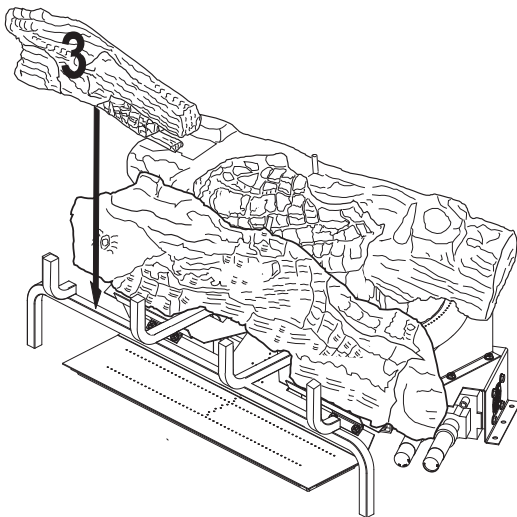

Figure 23 - Installing Log #3
3. Place the front left log (#3) onto the base assembly between the middle log (#2) and the grate fingers. The back of the front left log (#3) will rest against the front of the middle log (#2). The notch at the end of the front left log (#3) will fit around the grate bar. See **Figure 23, Page 18**.